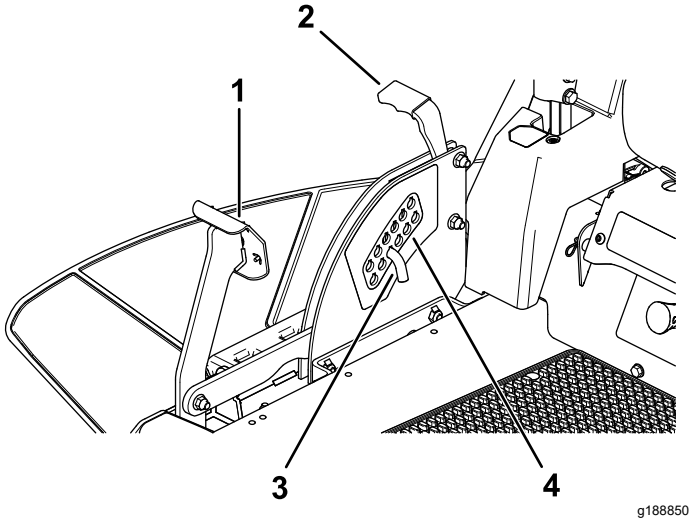

Figure 28
1. Push on the deck-lift pedal with your foot and raise the mower deck to the transport-lock position (also the 114 mm (4-1/2 inch) cutting height position) as shown in Figure 28.
2. To adjust, remove the pin from the height-of-cut bracket (Figure 28).
3. Select a hole in the height-of-cut system corresponding to the desired height of cut and insert the pin (Figure 28).